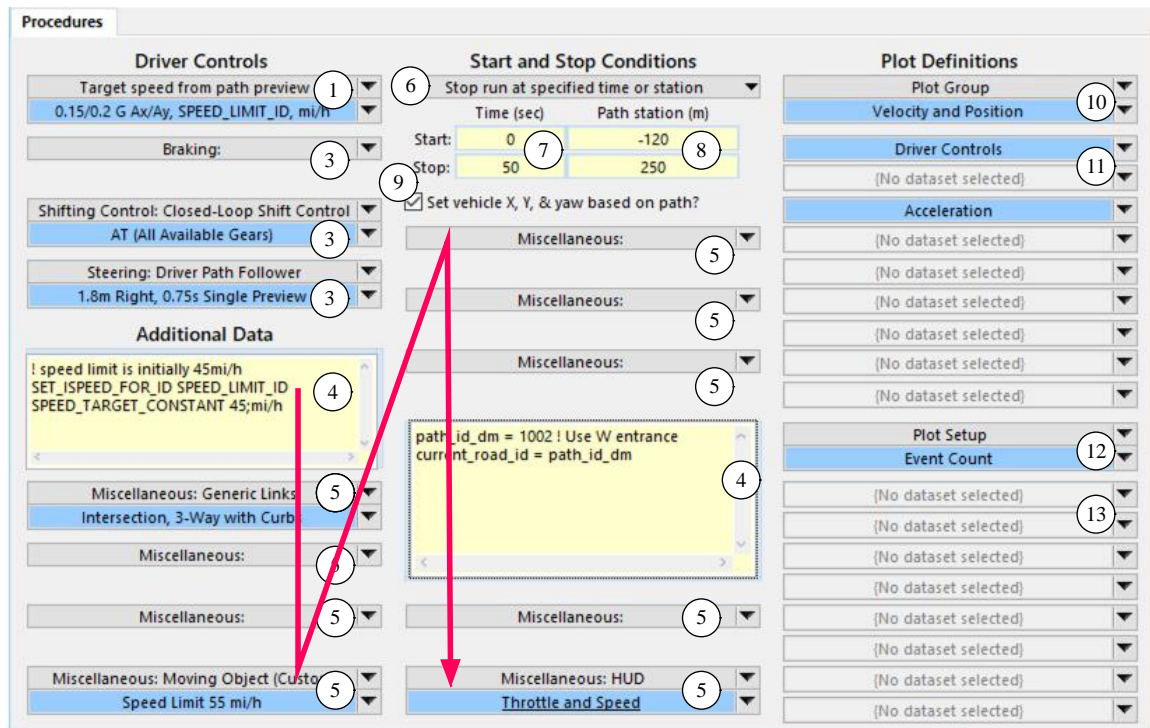
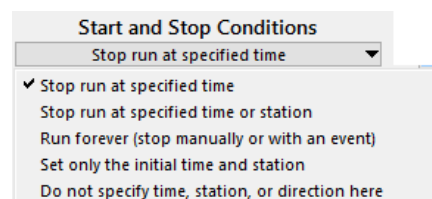
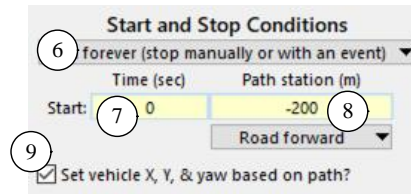

Figure 1. The Procedures screen.
Figure 4. Options for setting start and stop conditions.
Figure 5. Option to stop at specified time or station.
The **Procedures** screen (Figure 1) assembles conditions such as driver controls (steering, braking, throttle, etc.), road conditions, and other datasets that you might use to define a test. It can provide all the information to set up a run for any potential vehicle.
Three of the options involve the use of the built-in Closed-Loop Speed Controller. For the two options that begin with the words “Target speed,” a blue link is shown to link to a dataset from the appropriate library (Figure 1). The linked dataset specifies the target speed using various table options such as Constant or Linear interpolation and extrapolation, and possibly parameters for the speed controller. The controller can be tuned using feedback parameters (proportional, integral, and cubic gains), and the brake system may also be included (e.g., if trying to maintain a constant speed going down a hill).
- ④ **Miscellaneous yellow data fields.** These two fields may contain any text that would be recognized by the VS Math Model. They can be used to assign new values to any of the hundreds of parameters in the model. (To see the parameter names, go to the **Run Control** screen and use the **View** button in the lower-right corner to view an Echo file.) The format for each line of text should consist of a parameter name, then a blank space, and then the parameter value or a formula. For more detail, please see *VS Math Models Manual* and *VS Commands Manual*.
- ⑤ **Miscellaneous links.** These links can be made to datasets from many of the VS Browser libraries. Some popular links are VS Commands, VS Events, road conditions, and extra animation settings such as animated arrows to show tire forces. If you add animation settings, please be aware of the additive effects of multiple specifications of animation settings, as described in the section **Overriding Data** on page 26.
The data associated with the Miscellaneous links and data fields are written into the Parsfile top to bottom, left to right, as indicated by the zigzag red line (Figure 1, page 2). This is the order in which they are provided to the VS Math Models. Advanced users may apply this knowledge to coordinate the data from the fields ④ and links ⑤. For example, parameters can be defined in the first Miscellaneous data field so they can be referenced in linked datasets; alternatively, parameters defined in linked datasets can be overridden with new values in the second Miscellaneous data field.
- ⑥ Drop-down control for showing start and stop options. This list has five options (Figure 4). Based on this selection, appropriate controls are displayed below (⑦ and ⑧, Figure 1 and Figure 5).
For the second option, fields are shown for both start and stop positions (Figure 5).
With all three options, data fields are shown for the start time (7) (keyword = TSTART) and starting station (8) (keyword = SSTART) along the path with ID PATH\_ID\_DM. The direction the vehicle is travelling relative to the path is determined either by comparing start and stop station values (Figure 1), or by setting it directly with a drop-down control with options for forward or reverse (Figure 5) (keyword = OPT\_DIRECTION) .
If the choice is made to stop at a specified time or to run forever, a drop-down control is shown to specify the direction of travel (Figure 5, keyword = OPT\_DIRECTION).
In new simulation setups for multiple vehicles, there will often be multiple **Procedures** datasets specified, with one per vehicle. The links that specifically exist for driver controls ((1) - (3), Figure 1) and starting conditions ((6) - (9)) are applied for the most recently specified lead unit. Other links and fields ((4), (5), (10) - (13)) may be used for the simulation environment. Be aware that the additions such as paths, road, moving objects, events, etc. from all linked **Procedures** datasets will be added to the simulation. If multiple **Procedures** datasets link to the same optional feature (e.g., a set of 5 moving objects), then those features will accumulate as the linked datasets are read from all linked **Procedures** datasets.